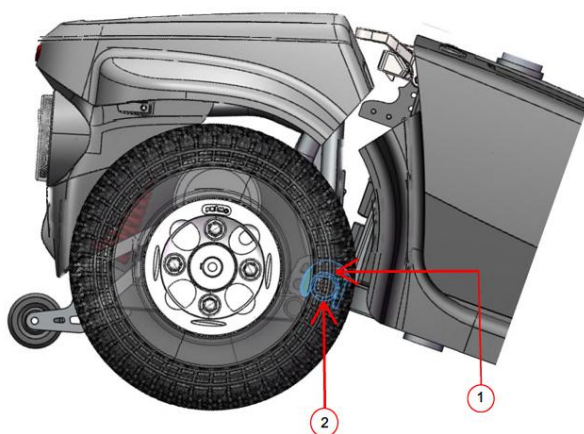

Figure 8. Frame Release Lever
ATTENTION – Before attempting assembly, tilt the rear half of the Scooter slightly back on the anti-tip wheels as shown in figure 8.
3. Slowly separate the two parts of the Scooter. See figure 8.
1. Use the front frame release lever to lift the front frame as you align the frame hooks of the front frame with the rear frame tube of the rear frame. See figure 8.
2. Once the frame hooks are over the rear frame tube, lower the front frame and pivot the rear frame simultaneously. This will engage the frame lock-up automatically. See figure 8.